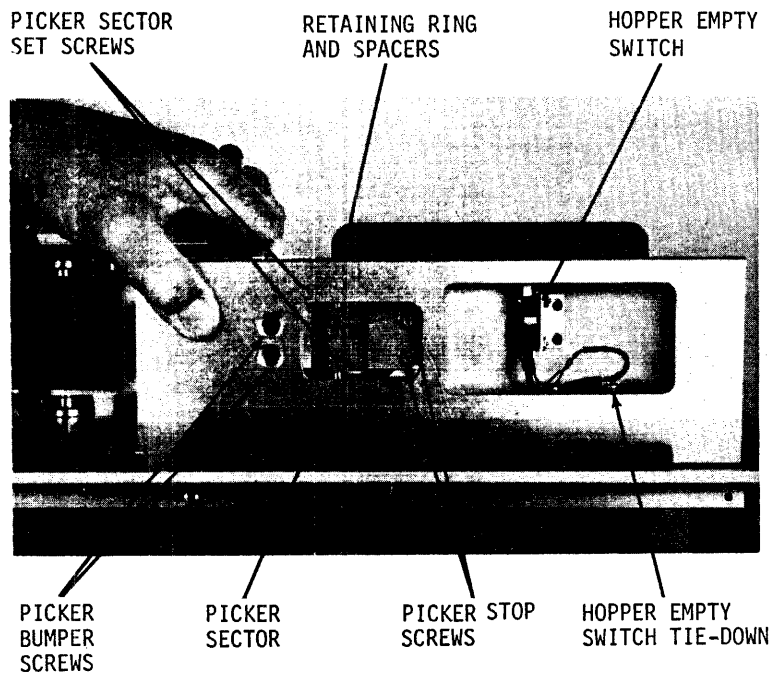

Figure 6-12. Picker Sector Adjustment, Front View
- b. If the height of the picker sector requires adjustment, use a 5/64 Allen wrench and loosen the set screws in the back of the picker sector, figure 6-12.
- j. Using a 5/64 Allen screwdriver, loosen the two rest stop socket head screws, figure 6-12.
- w. Using a 9/64 Allen screwdriver, loosen the two picker bumper socket head screws, figure 6-12.